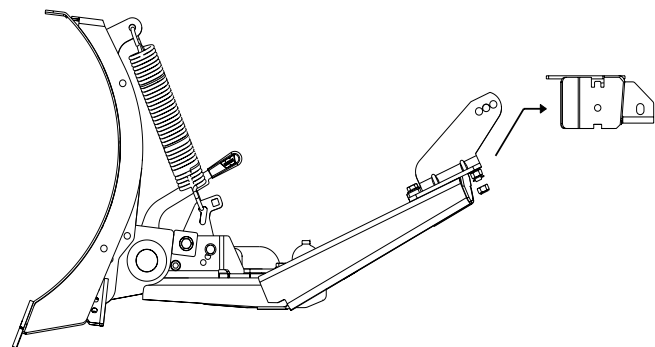

Figure 13
3. Turn off the vehicle and set the parking brake. Lift the plow mount flange end of the push tube assembly up to the plow mount on the vehicle. Insert the plow mount flange into the plow mount receiver. See Figure 13.